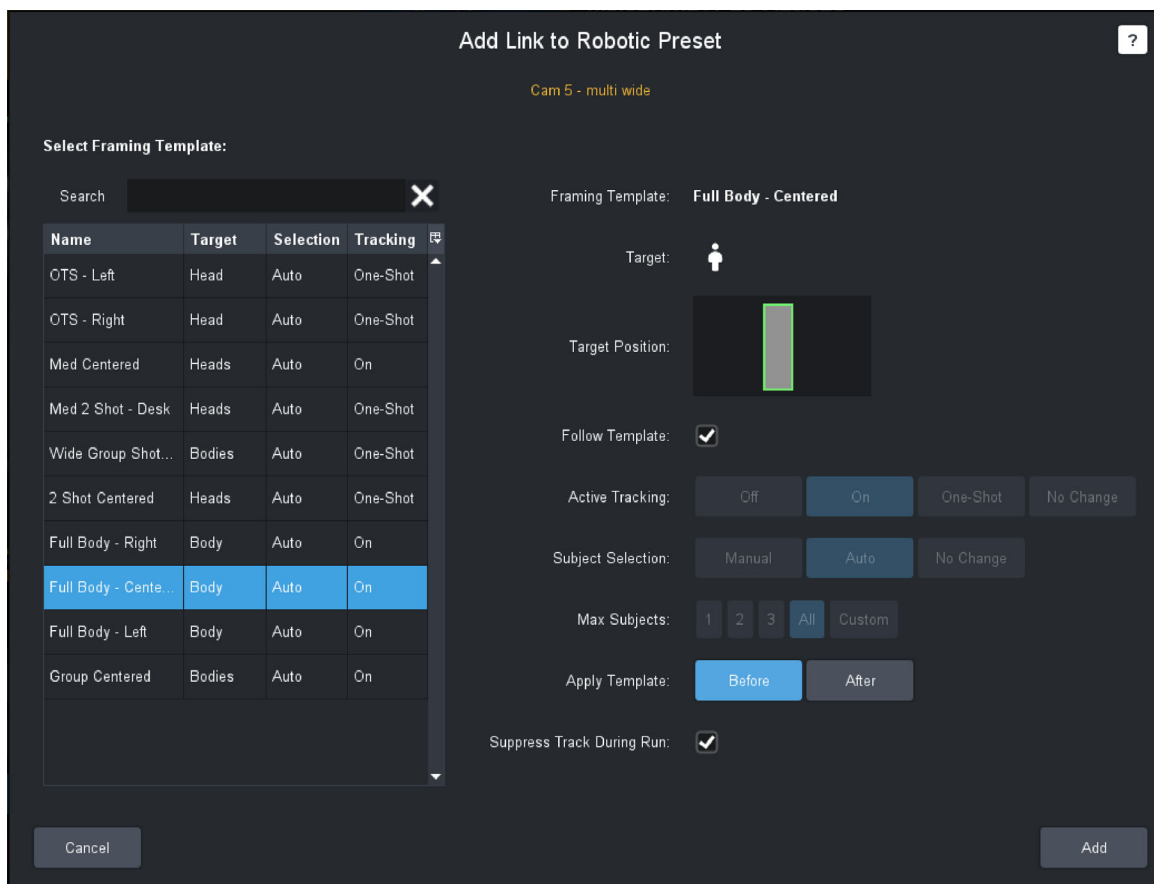

Figure 53 - The Edit Link for Robotic Preset Dialog Box
- **Edit button** — Opens the **Edit Link for Robotic Preset** dialog box (Figure 53).